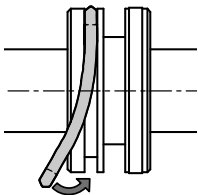

Fig. 5 Installation of the piston seal
- Mount the seal while stretching it as in Fig. 5.